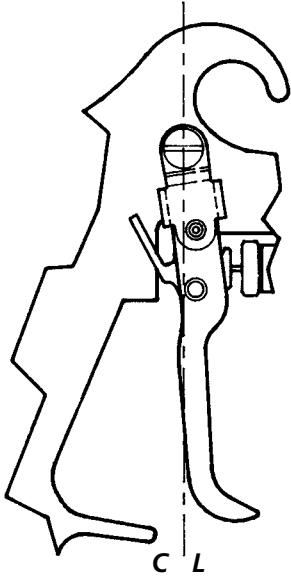

Figure 6
1. Remove material valve control knob (29) and spring (28).
2. Loosen wire chuck (27) from chuck lock (26) just enough to allow wire and ball assembly (11) to move.
4. Push wire chuck (27) and chuck lock (26) forward until they stop.
5. Holding forward pressure against the rear end of the wire and ball assembly (11), pull the trigger (39) back until the air valve spindle assembly (23) moves back 1/16".
6. Without moving the wire chuck and lock (27 & 26), release pressure on the trigger (39) and tighten the wire chuck and chuck lock in place.
7. Check for proper travel as shown in figures 6 thru 9.